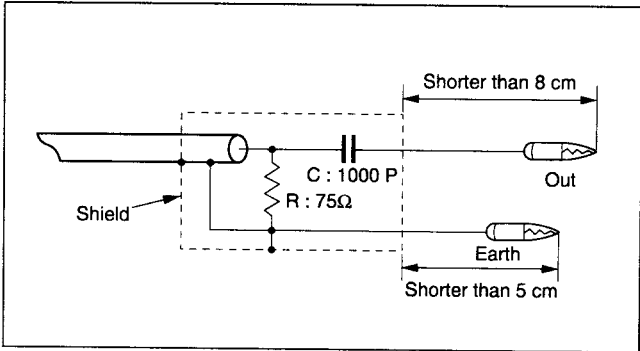

Fig. 3-7-1 Sweeper probe
- Use a sweeper probe as shown in Fig. 3-7-1.